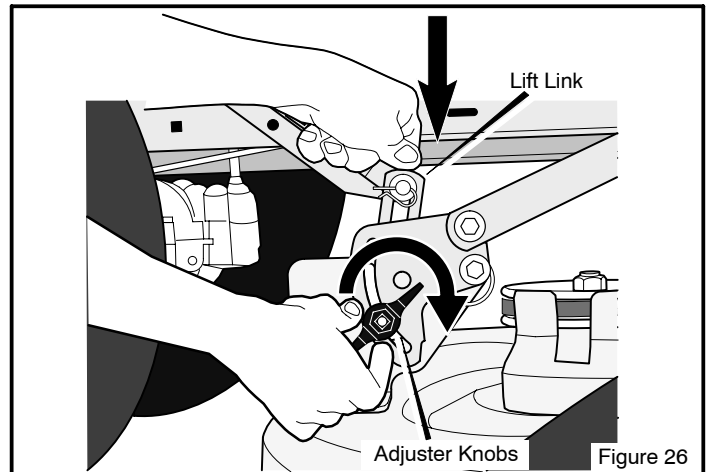

Figure 26
6. Loosen the left and right **adjuster knobs** (Figure 26). Push down on each side of the mower housing. Make sure both sides of the mower housing are setting on a flat surface. Also, make sure the lift links are loose and can easily move up or down.
7. Push down on the **lift links** and tighten the left and right **adjuster knobs** (Figure 26). Make sure the **adjuster knobs** are tight. If necessary, use a wrench to tighten the **adjuster knobs**. Tighten to a torque of 10 foot pounds (13,5 N-m).